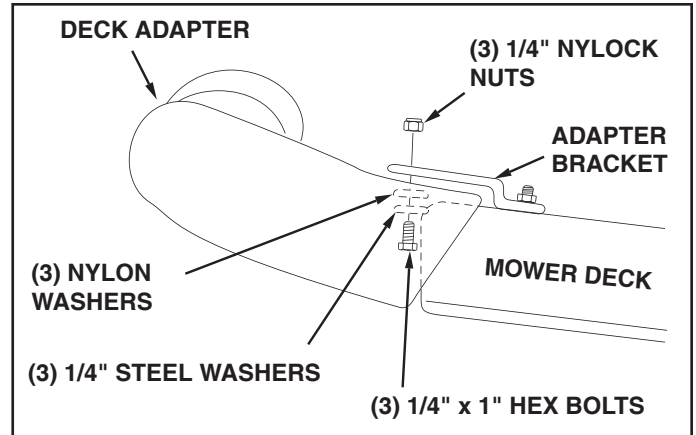

FIGURE 18
8. With deck adapter positioned correctly over the discharge opening, use the adapter bracket as a template and drill three 9/32" diameter holes in the top of the deck adapter. See figure 18.
9. Bolt deck adapter to bracket using three 1/4" x 1" bolts, nylon washers, 1/4" flat washers and 1/4" nylock nuts. Nylon washers should be against the inside of the deck adapter. See figure 18.